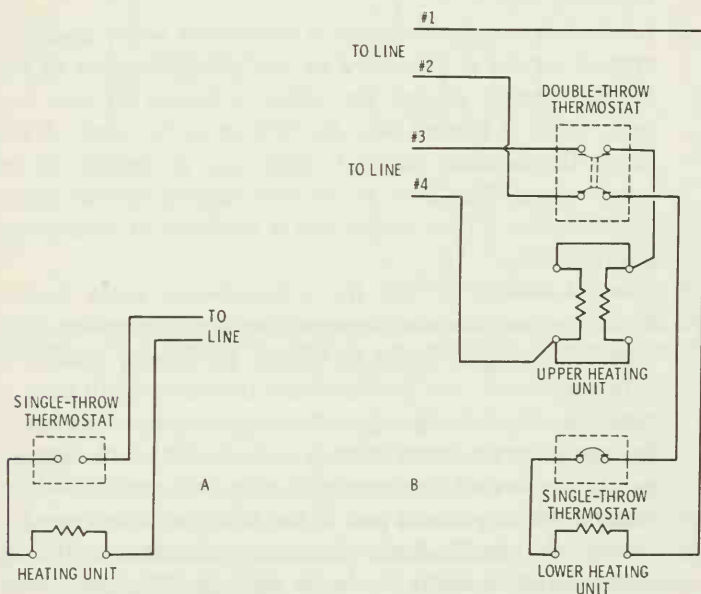

Fig. 7. The wiring connections for a nonlimited-demand service to electric water heaters having one (A) or two (B) heating units.
1. *Nonlimited-demand service for a single- or double-unit water heater.* In this type of service, the current is available to the heater 24 hours a day. The unit is connected to the line as shown in Fig. 7.